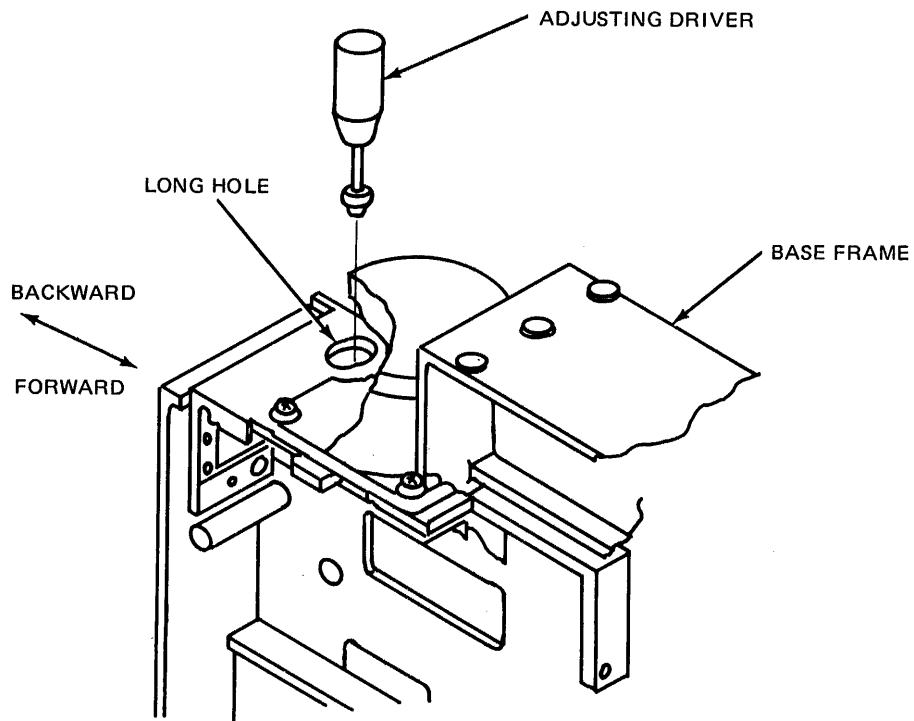

Figure 5-3 Adjusting Head Radial Alignment
- d. If the ratio of the lobes of the waveform is not within specifications, loosen the two screws that fasten the carriage to the base frame and adjust the carriage position (in or out) with the adjusting driver (see Figure 5-3).